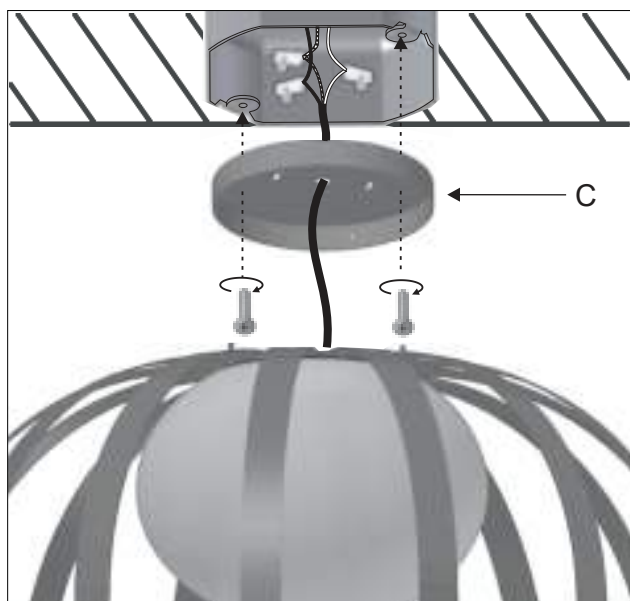

Figure 2B
Insert the electrical wires through the central hole of the mounting bracket (C) and make the connections within the junction box. Attach the mounting bracket to the junction box. Figure 2B.